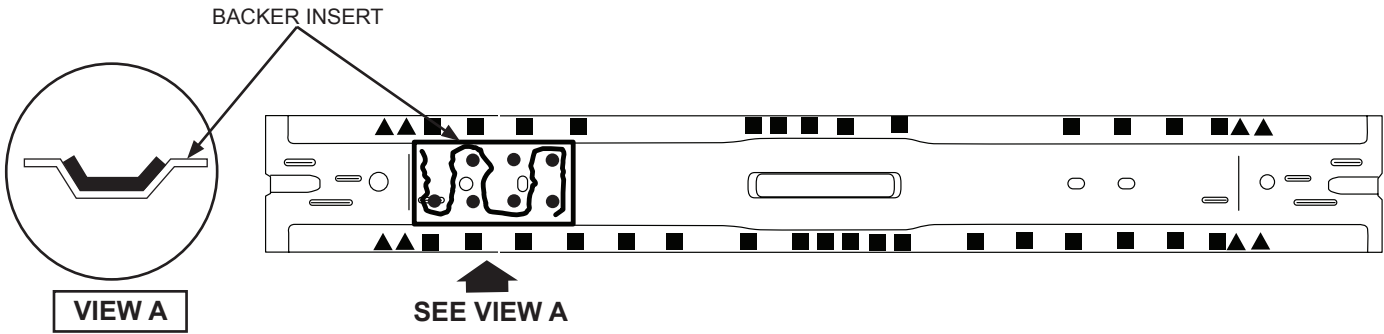

FIGURE 3
- Make cuts as outlined to remove damaged areas, then make a 4" long insert/backer for repair up to the floor pan flange. (Refer to Figure 3).
- **Option 1** - Insert/backer may be installed using eight (8) blind rivets (W702512-S900C) and adhesive. (Refer to Figure 3).